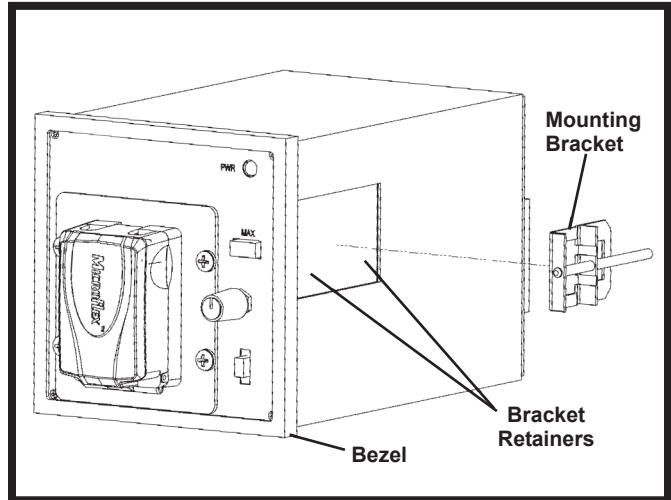

Figure 6. Mounting Bracket Installation
2. Place a **Mounting Bracket**, *Figure 6*, between the grooved bracket retainers on one side of the Case and slide the Mounting Bracket back to lock into the retainer grooves.